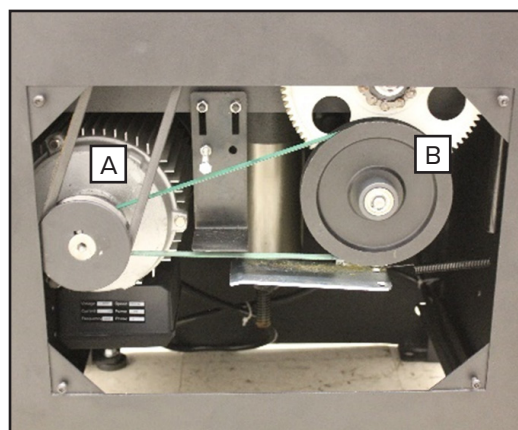

Figure 24: Drive Belt Position.
2. Remove the fence assembly, the Rear Guard (#91-A), and the cabinet's rear Belt Cover Plate (#40- B) in Fig. 23 A and B to expose the motor, pulleys, and belts. See Figure 24.
Both drive belts are situated behind the machine's rear cover and side panel Figure 24. (A & B).